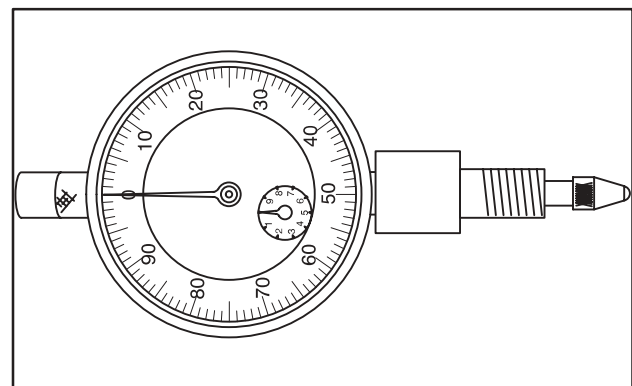

Fig. 4 – Setting Indicator
4. Slowly rotate crankshaft counter-clockwise until dial indicator needle just stops moving. Set dial indicator at "0," Fig. 4.